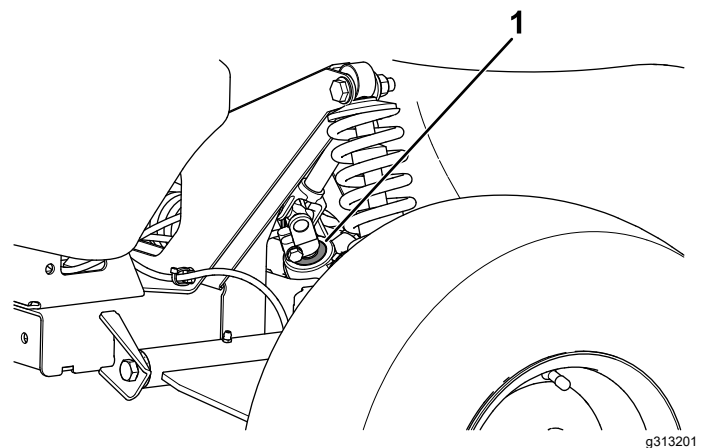

Figure 45
- **Important:** Inspect the condition and security of the pinion-shaft seal (Figure 45).